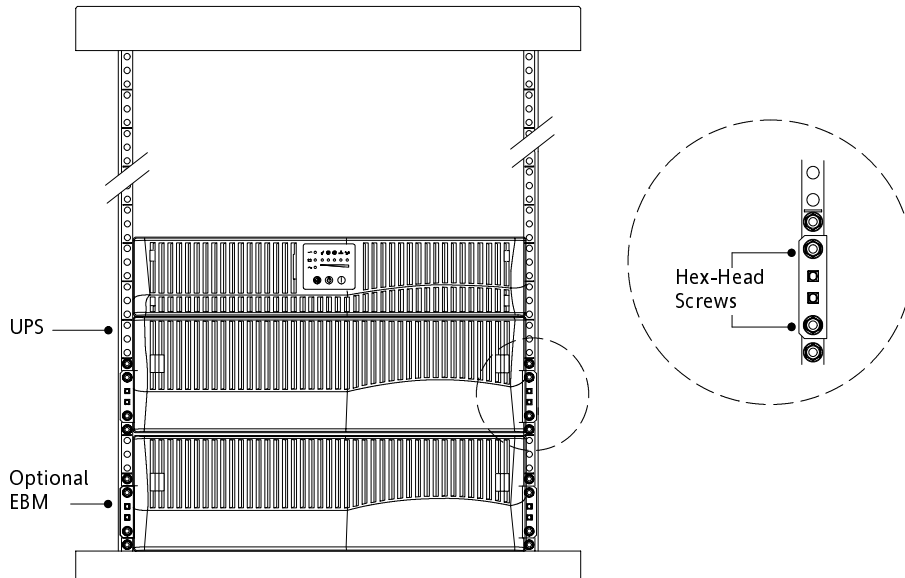

Figure 7. Securing the Mounting Brackets
NOTE The EBMs must be installed below the UPS as shown in Figure 7. The PDM must be installed between the UPS and EBM.
11. After installing the UPS chassis, secure the front of the UPS to the rack using two hex-head screws in the top and bottom positions of each mounting bracket (see Figure 7). Repeat for each cabinet.